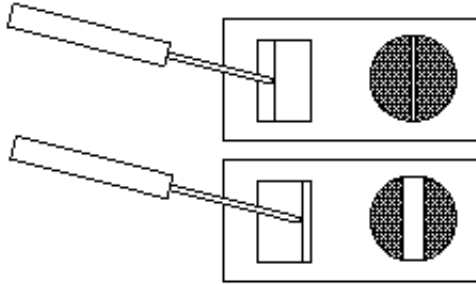

Figure 2. Connecting bare wires to the Model 1000RPEM-DC power entry card.
- Use a small flat blade screwdriver to open the cage clamp as shown in Figure 2 (below.). Insert the stripped portion of the wire into the opening and remove the screwdriver. The cage clamp will clamp the wire producing a reliable connection. Make sure all strands of wire are captured and that there is no exposed wire.